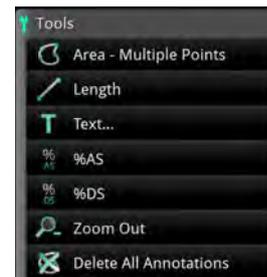

Figure 7-1: Tools
2. Click on the **Area - Multiple Points** button (Figure 7-1). The cursor changes to a pen.
2. Click on the **Text...** button (Figure 7-1).
3. Click on the %AS button (Figure 7-1) to display the **Select Area Measurement** dialog box.